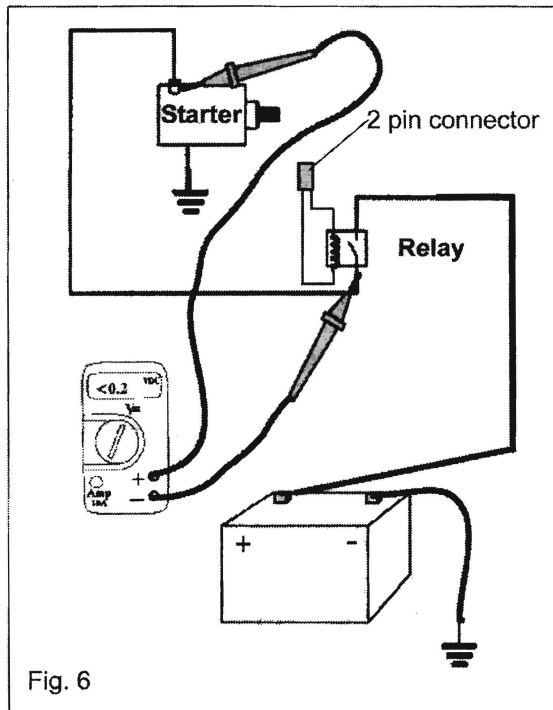

Fig. 6
26. Place one lead of DMM to starter motor side of relay. Ensure DMM is set to read Volts DC. (Fig. 6)
27. Place other lead of DMM to starter motor positive terminal. (Fig. 6)